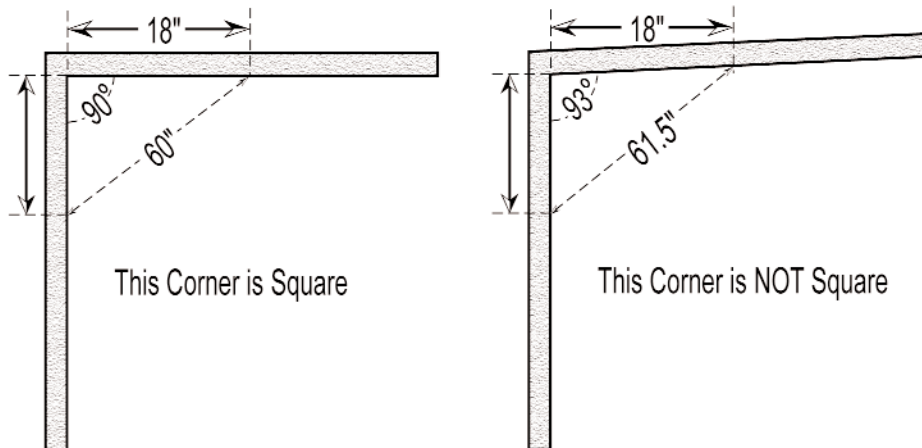

Figure 1
2. Walls need to be constructed of 2x4 or 2x6 studs. All corners must be squared using the 3-4-5 method to square walls. (See figure 1 below)